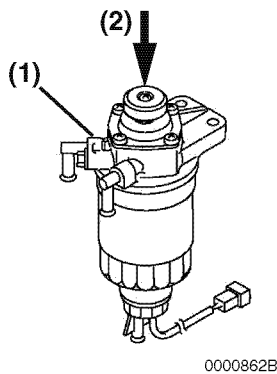

Figure 2
2. Loosen the air bleed port (**Figure 2, (1)**) 2 or 3 turns.
3. Operate the fuel priming pump (**Figure 2, (2)**) until the fuel coming out of the air bleed port is free of bubbles.